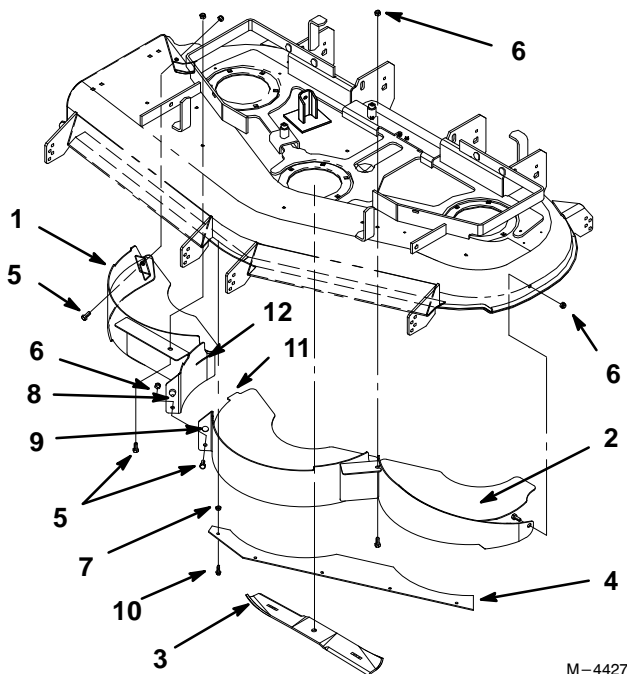
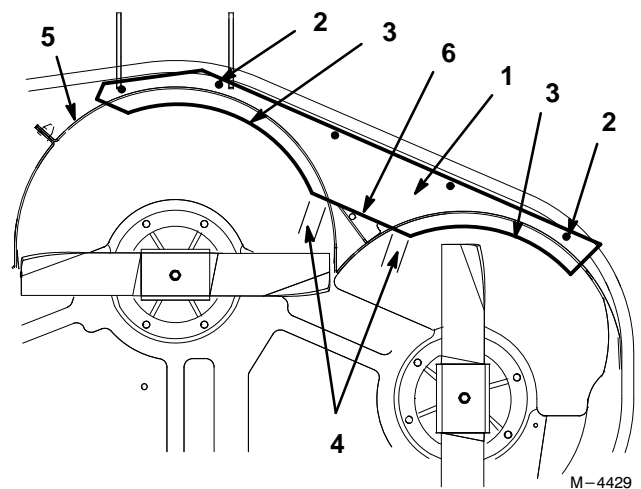

Figure 1
Figure 3
Note: All holes in deck are pre-drilled for installing Left and Right baffles (Fig. 1).
1. Align both baffles (Fig. 1).
- The plug on the right baffle must be inserted in to the hole in the left baffle (Fig. 1).
- The tab on the left baffle must be inserted into the slot in the right baffle (Fig. 1).
2. Connect both baffles together with bolt and locknut. Tighten securely (Fig. 1).
5. Install bolts and nuts into the pre-drilled holes and tighten securely (Fig. 1).
6. Install new mulching blades after the baffle is in place and without anti-scalp cups (Fig. 1).
IMPORTANT: The sail part of the blades (i.e., the turned up section) must face the inside of the mower (Fig. 1).
Note: All holes for installing Lower baffle need to be drilled (Fig. 3).
1. Place secondary baffle as shown in figure 3. Make measurements to correctly place it.
Note: There will be approximately 1 inch radius overhang of the lower baffle past the main baffle. Note the equal distance to measure on the straight edge of lower baffle (Fig. 3).
2. Mark the location of the baffle mounting holes (Fig. 3).
3. Drill (5) 7/32" holes at the marked locations in the mower.
4. Install spacers between the deck and lower baffle. Install tapping screws and tighten securely (Fig. 1).